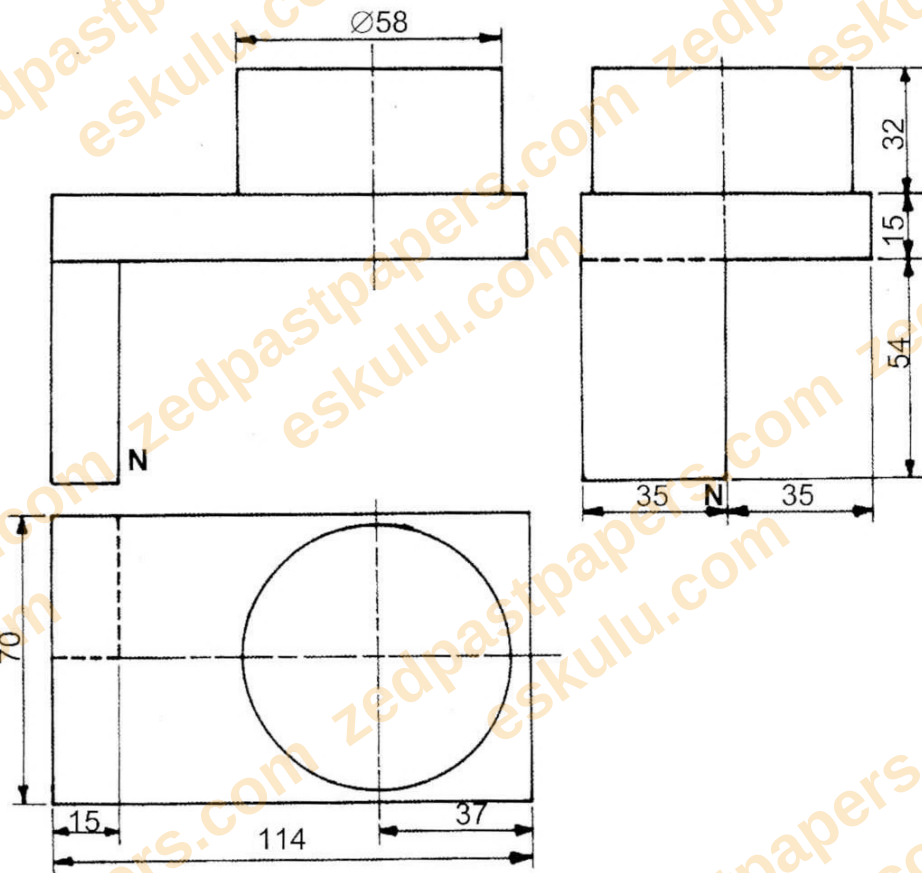

Figure 1
- 1** Three orthographic views of a bracket are shown in Figure 1.
Question 1. SECTION 1 [16]. Three orthographic views of a bracket (Figure 1, first-angle, T-shaped bracket with a Ø58 boss, overall 70mm plan width, 114mm length, 15/37mm split, 32/15/54mm height divisions) are given. WITHOUT copying the views, freehand sketch a pictorial view with point N in the foreground, no instruments allowed.
Answer: Answer: correct procedure is freehand-only (no instruments at any stage, construction lines left visible), an oblique/isometric-style pictorial built from a light bounding box in the 70 x 114 x ~70 proportions read off Figure 1, with the boss/hole sketched as freehand ellipses, and point N positioned as the nearest corner to the viewer.